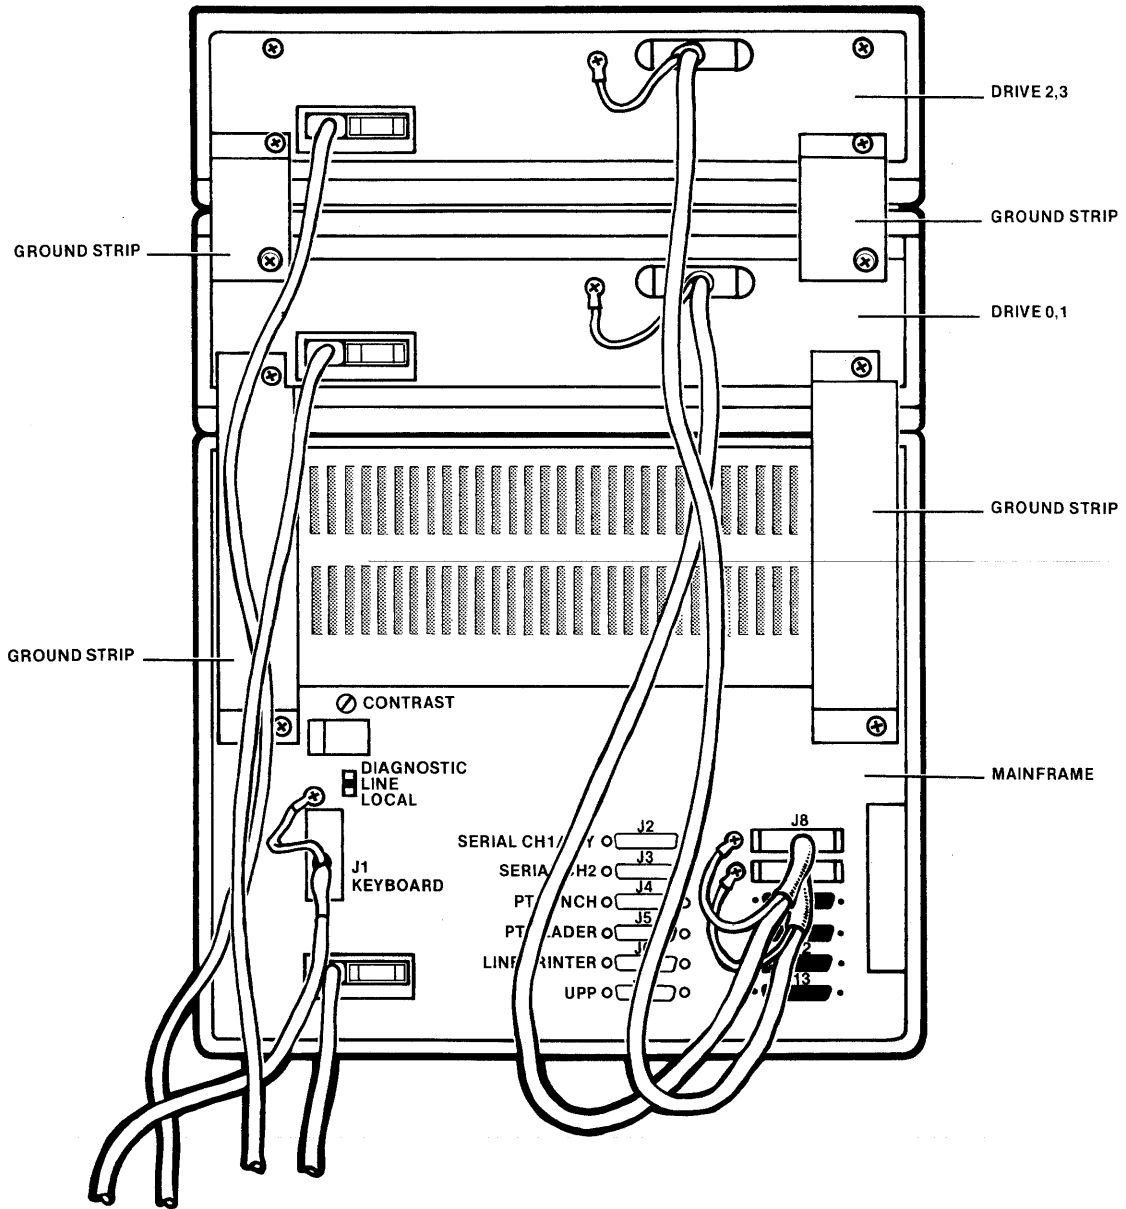

Figure 5-13. Diskette Drive/Mainframe Cabling Details
- c. Refer to figure 5-13 and remove ground strips between the mainframe and Drive 0, 1. Remove drive(s) from top of mainframe.